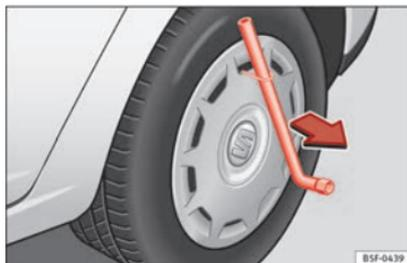

Fig. 182 Remove the wheel cover.
- Remove the wheel cover using the wire hook » Fig. 182.